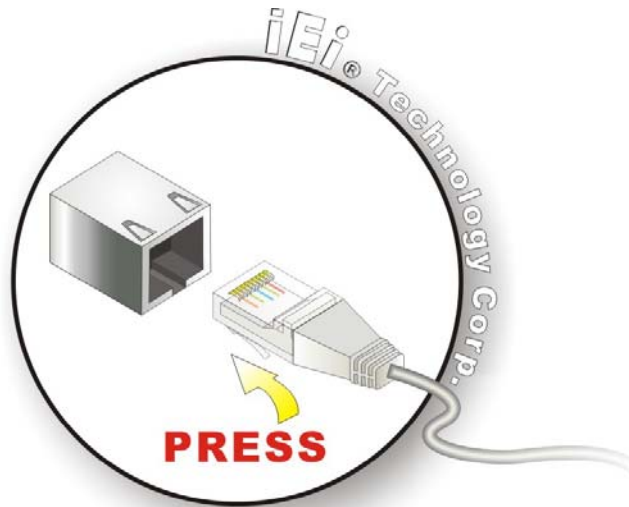

Figure 3-29: LAN Connection
Step 2: Align the connectors. Align the RJ-45 connector on the LAN cable with one of the RJ-45 connectors on the PPC-5152-D525. See **Figure 3-29**.